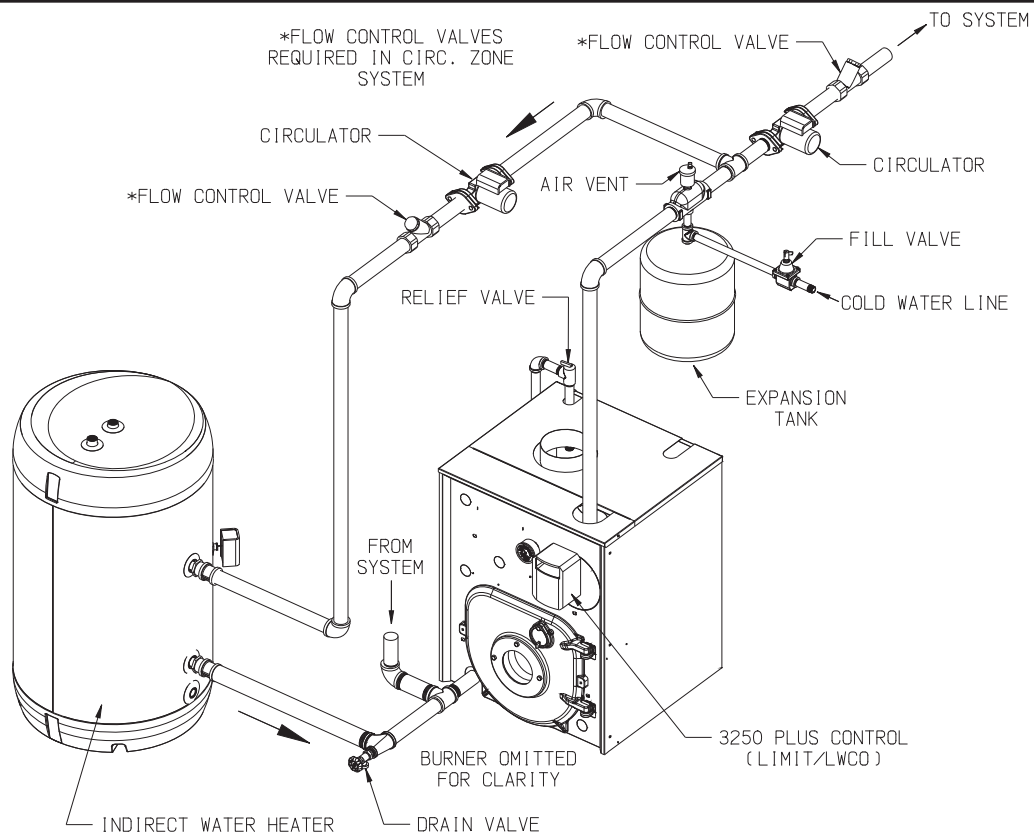

FIGURE 8.2: INDIRECT WATER HEATER BOILER SIDE PIPING
- 1) Indirect Water Heaters - Figure 8.2 shows typical indirect water heater piping. Boiler piping is the same as for any two-zone system. Figure 8.2 shows circulator zoning, which is usually preferred for indirect water heaters. Size the circulator and indirect water heater piping to obtain the boiler water flow through the indirect water heater called for by the indirect water heater manufacturer.